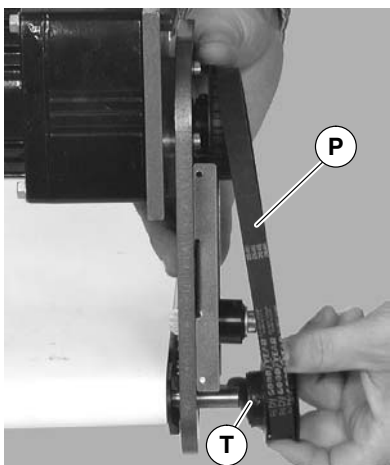

Figure 15
3. Remove timing belt (Figure 15, item P).
If timing belt does not slide over pulley flange, loosen two driven pulley set screws (Figure 15, item T) and remove pulley with belt (P). For re-installation, see steps 6 and 7 on page 10.